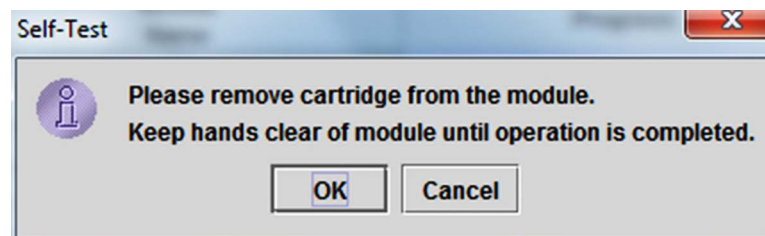

Figure 9-35. Self-Test Dialog Box
5. Click **Self-Test**. The Self-Test dialog box appears. See Figure 9-35.